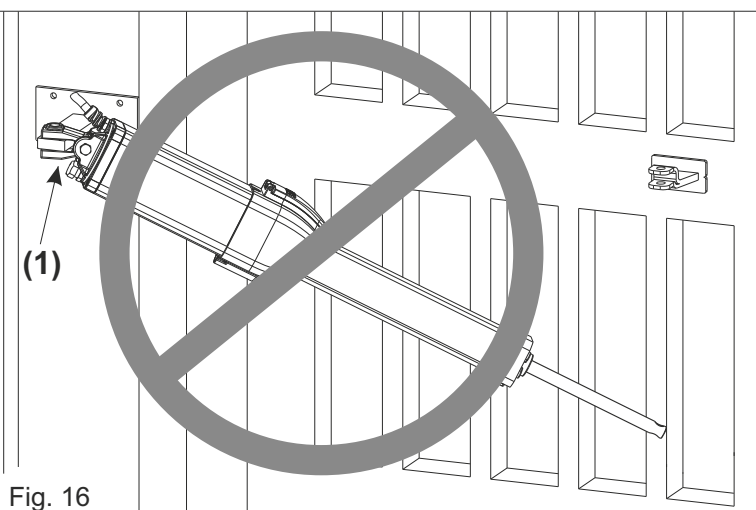

Fig. 16
DO NOT incline the hydraulic operator further than the oscillating fork allowed angle (1), it may cause its breaking (Fig. 16)